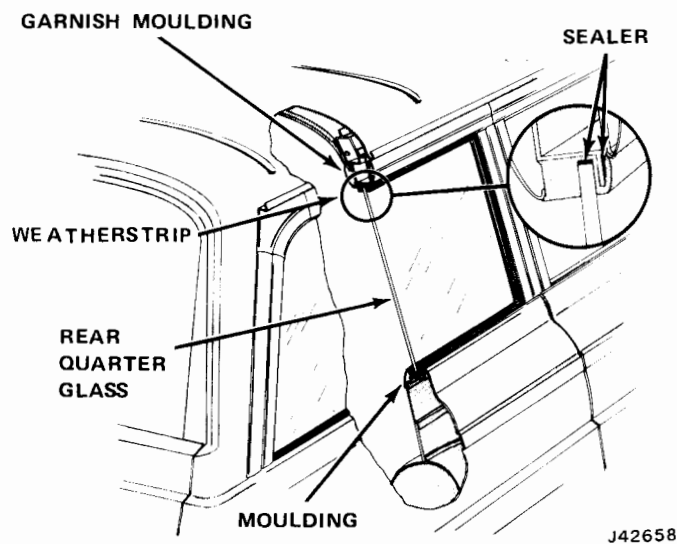

Fig. 15-6 Rear Quarter Window—Wagoneer
- (1) Remove interior garnish mouldings from around window and break seal loose between weatherstrip and body panels.
- (2) Push glass toward inside of vehicle.
- (3) Remove weatherstrip from around glass and clean old sealer from glass cavity and flange cavity.
- (4) Before installing glass in weatherstrip, apply a 3/16-inch bead of 3M Windshield Sealer or equivalent in glass cavity completely around weatherstrip using a pressure type applicator (fig. 15-6).